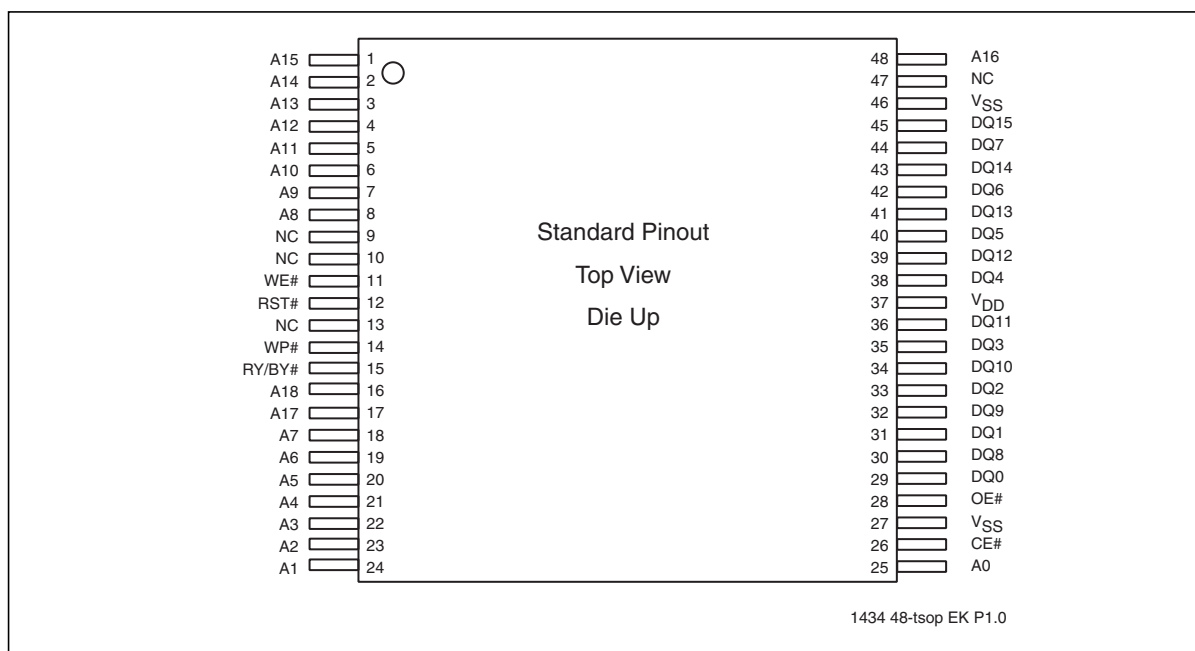

Figure 2: Pin Assignments for 48-Lead TSOP
To meet high density, surface mount requirements, the SST39VF801C/802C and SST39LF801C/802C are offered in 48-lead TSOP, 48-ball TFBGA, and 48-ball WFBGA packages. See Figures 2, 3, and 4 for pin assignments.
The sector architecture is based on a uniform sector size of 2 KWord. The Block-Erase mode is based on non-uniform block sizes—fifteen 32 KWord, one 16 KWord, two 4 KWord, and one 8 KWord blocks. See Figure 2 for top and bottom boot device block addresses. The Sector-Erase operation is initiated by executing a six-byte command sequence with Sector-Erase command (50H) and sector address (SA) in the last bus cycle. The Block-Erase operation is initiated by executing a six-byte command sequence with Block-Erase command (30H) and block address (BA) in the last bus cycle. The sector or block address is latched on the falling edge of the sixth WE# pulse, while the command (30H or 50H) is latched on the rising edge of the sixth WE# pulse. The internal Erase operation begins after the